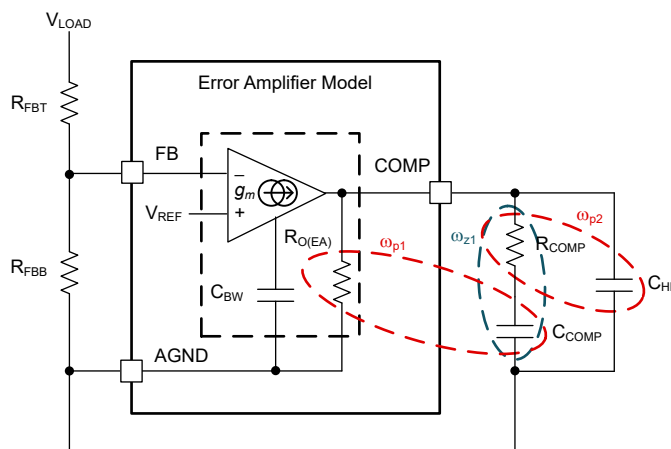

Figure 7-3. Error Amplifier and Compensation Network
Figure 7-3 shows a type-II compensator using a transconductance error amplifier (EA). The dominant pole of the EA open-loop gain is set by the EA output resistance, $R_{O(EA)}$, and effective bandwidth-limiting capacitance, C_{BW} , as shown by Equation 34.